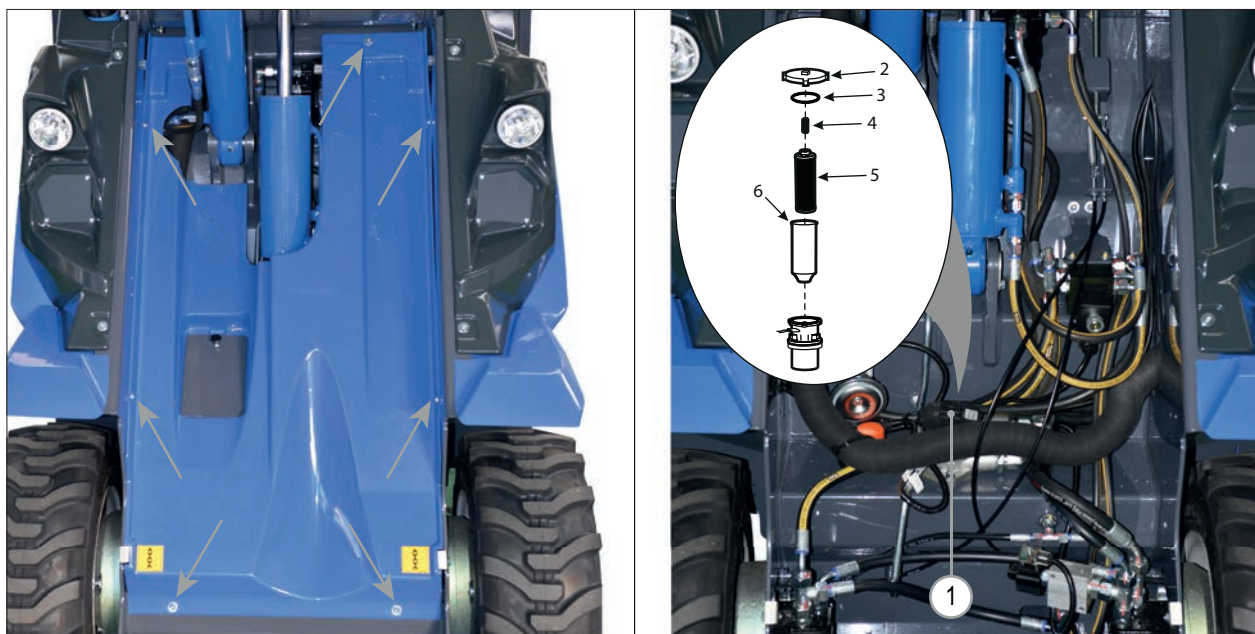

FIG. 42
- 3) Remove the front panel by loosening the screws that secure it to the frame (see FIG. 42).
- 4) Remove the filter cover by rotating the cover. It may be necessary to use a wrench to loosen the cover (FIG. 42 - Ref. 1).
- 5) Remove the spring (FIG. 42 - Ref. 4), and the filter element (FIG. 42 - Ref. 5) from the plastic sleeve (FIG. 42 - Ref. 6).
- 7) Reinstall the spring and inspect the filter cover O-ring for any signs of wear or damage. This O-ring is located in a groove at the top of the filter body (FIG. 42 - Ref. 3). Replace the O-ring in case of wear or damage.
- 8) Reinstall the filter cover (FIG. 42 - Ref. 2) and secure it.